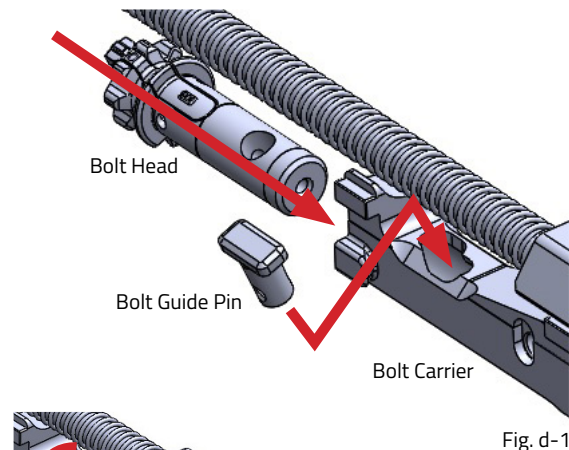

Fig. d-1
1. Insert the bolt head into the bolt carrier, with the large bolt guide pin hole in the 12 o'clock position. (Fig. d-1)
2. Rotate the bolt head to approximately the 1 o'clock position and insert the bolt guide pin, with the top plate of the pin parallel to the bolt carrier. (Fig. d-1)